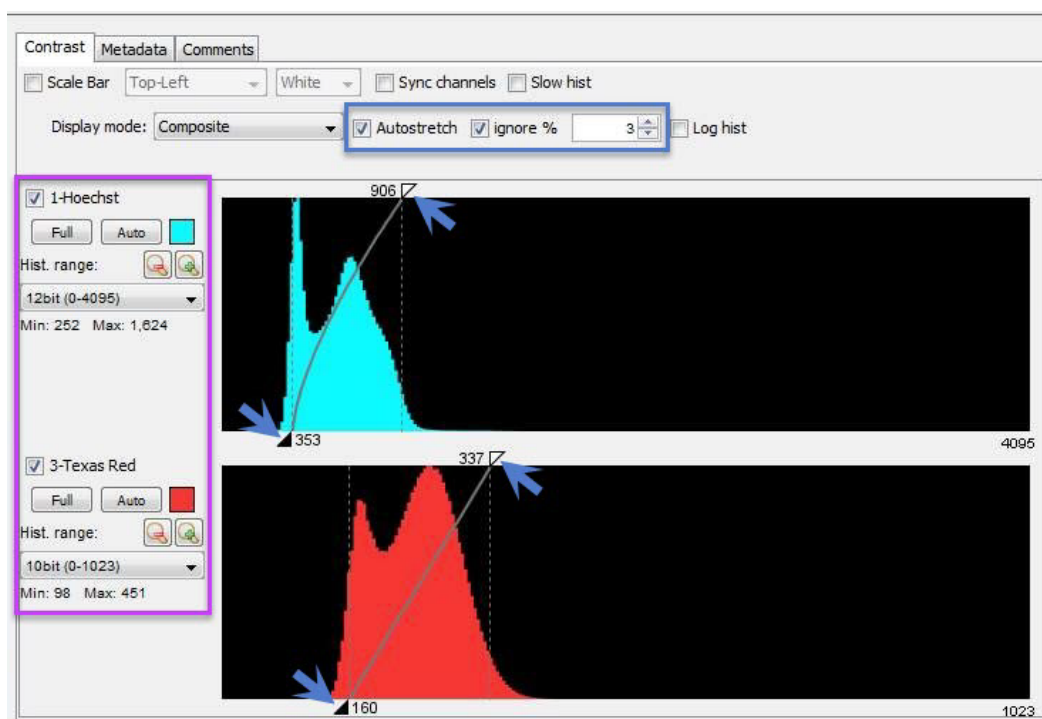

Figure 19. Adjusting camera depth and image contrast.
- a. In the *Main* window, select the *Contrast* tab and ensure that "Camera Depth" menu is set to **12 bit (0-4095)** for Hoechst and **10 bit (0-1023)** bit for Texas Red (in the purple box in Figure 19, below).
- b. Next, confirm that the [Autostretch] and [Ignore] boxes are selected, and that the percentage value is in the range of **1–3%** for **Ignore** (blue box in Figure 19. If this does not provide optimal contrast, drag the ends of the diagonal line (see arrows in Figure 19) closer to the range of the histogram peaks and zoom out when satisfied with the focus in the Z-plane.